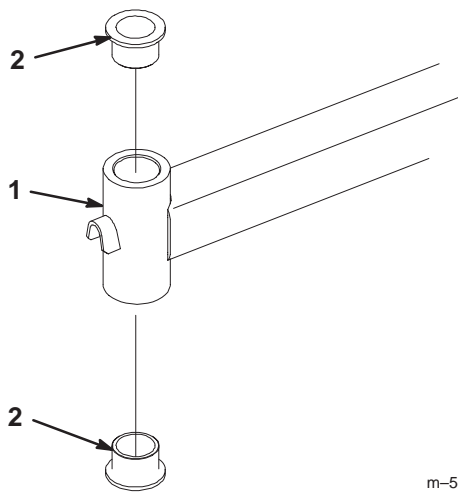

Figure 63
4. Insert a pin punch into the mounting tube and carefully drive out the bushings (Fig. 63). Clean the inside of the mounting tube.